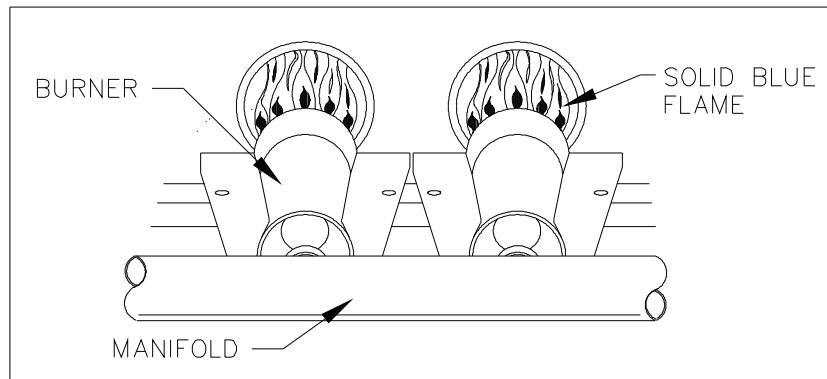

Figure 5
4. Return Air Duct Connection: Check to see if it is (1) physically sound; (2) sealed to the furnace casing; and (3) terminates outside the space containing the furnace.
7. Make sure the gas is burning properly (See Figure 5). Burner flames should not impinge or fire against the side of the tube opening.